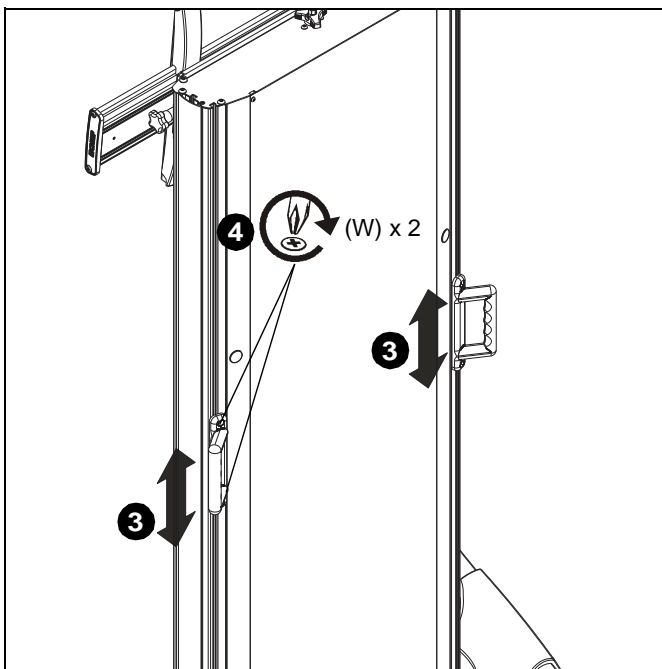

Figure 12
3. Adjust handles to desired height. (See Figure 12)
4. Tighten two screws on each handle to lock handles at desired positions. (See Figure 12)